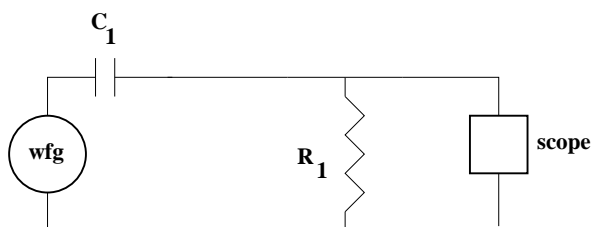

Figure 3: Circuit to generate sharp pulses.
2. The wfg is not quite fast enough to produce pulses short enough for our purposes. We will have to help it using a familiar trick of the trade. The “trick” in this case is simply to differentiate the signal by building a simple RC circuit. See figure 3. You will make the simple RC differentiator by soldering together a capacitor and a resistor. ($R_1 = 47\ \Omega$ and $C_1 = 100\ \text{pF}$.) The instructor will help you with the soldering. Insert the differentiator into the output circuit of the wfg.